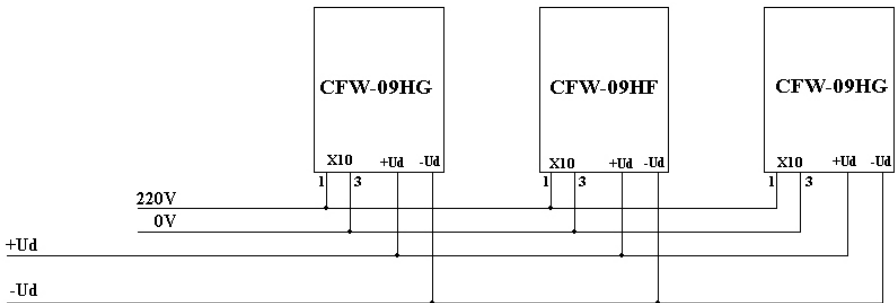

Figure 9 - Fan supply View
- ☑ The HF and HG modules are fitted with a terminal for the supply of the cooling fans (Fig. 9). The supply voltage is 220V/60Hz and the drained current is 2,7 A. No external protection through fuses must be provided for the fan supply.